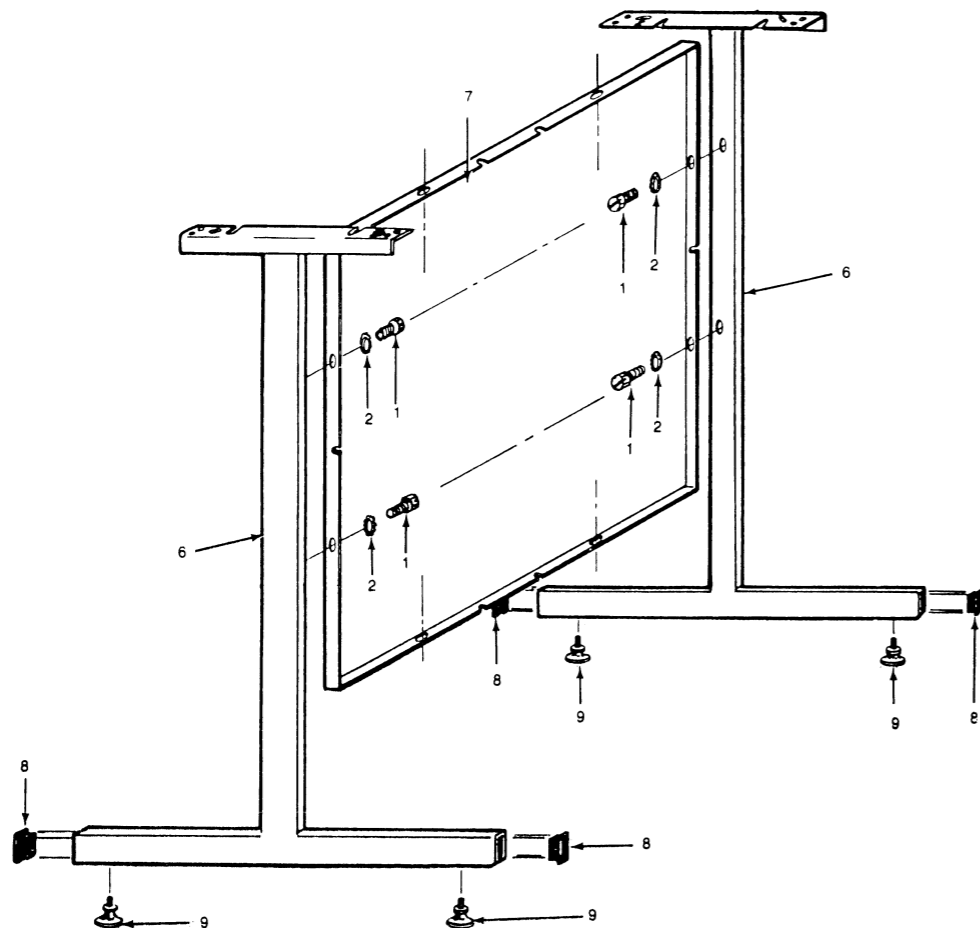
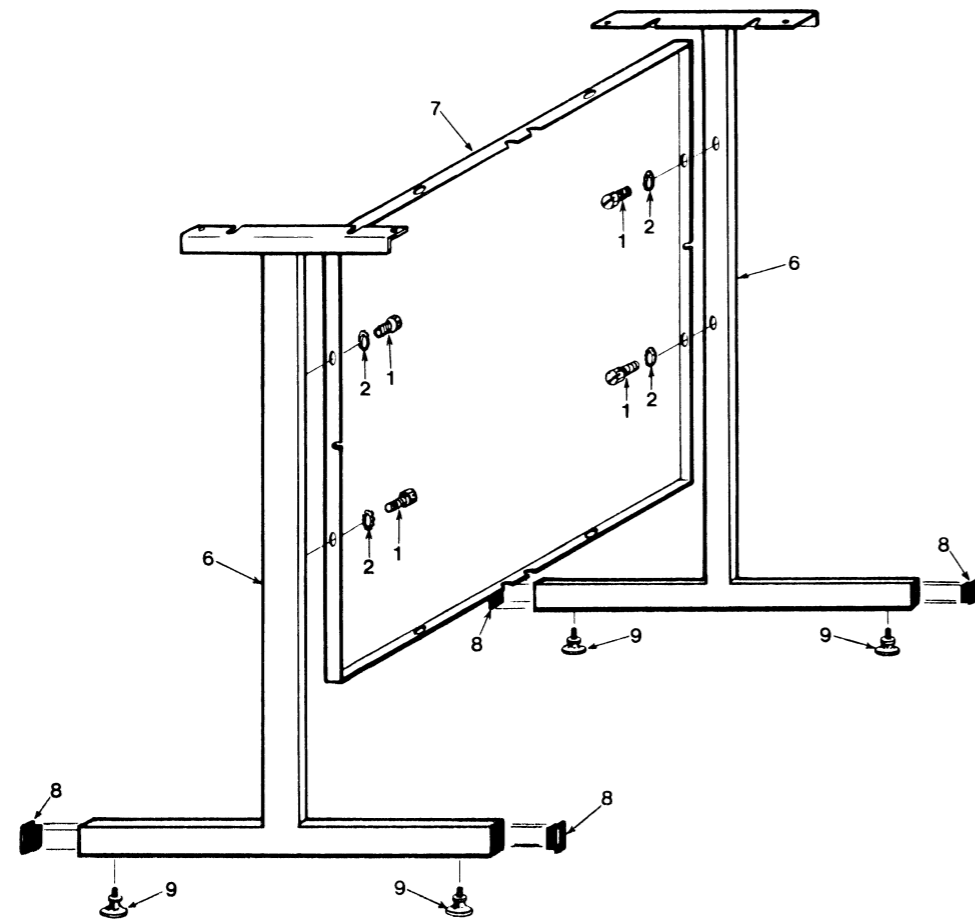

FIGURE 3
FIGURE 8
Referring to figure 3, assemble items 8 and 9 into item 6.
Attach central panel (item 7) to side piece (item 6) using 4 each of items 1 & 2 (as shown in figure 3). Central panel should have **double** notch side facing upward. Do not completely tighten the upper right hand 1/4-20 screw (item 1) until after ground straps have been attached.
Referring to figure 8, assemble items 8 and 9 into item 6. Attach central panel (item 7) to side piece (item 6) using 4 each of items 1 & 2 (as shown in figure 3). Central panel should have double notch side facing upward.